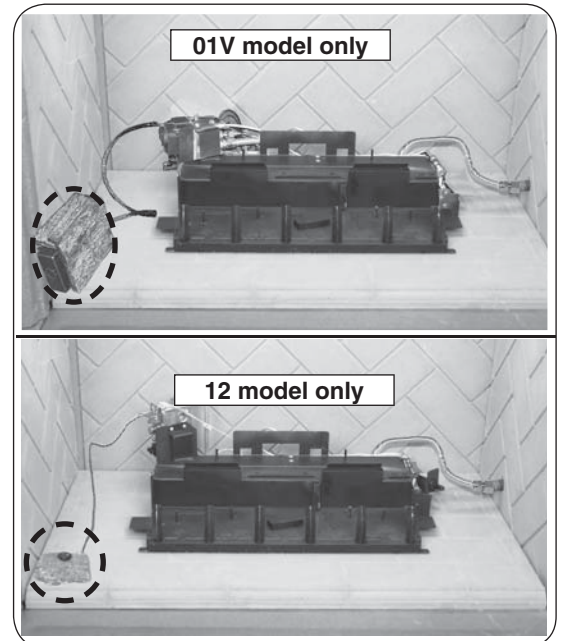

Fig. 16-2 Place battery box / switch
3. Place the burner system in the fireplace. Center the burner in the fireplace. (Reference Fig. 16-2 for orientation.)
6. **01V models only: place the battery box extension at the front left corner of the fireplace. Place as far from the burner system as possible.** Then place the decorative heat shield. See Fig. 16-2.
12 models only: place the wood-chip ON/OFF switch at the front left corner of the fireplace. Place as far from the burner system as possible. See Fig. 16-2.